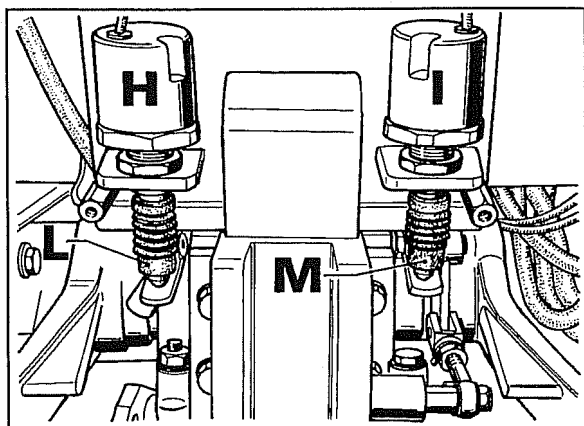

Fig. 47
3. Check to make sure that the tips **L-M** are in good contact with the corresponding levers and their travel is positioned more or less as shown in Fig.47.
The 4.6 Kohm to 740 Ohm reading scale requires the lift to be lowered all the way and manually move sensor tips **L** and **M** (Fig.47) for their entire travel-i.e., all the way out and all the way in.
NB - To permit tip **M** travel, disconnect the linkrod between the 3-point hitch and the sensor control lever (see Fig. 47).